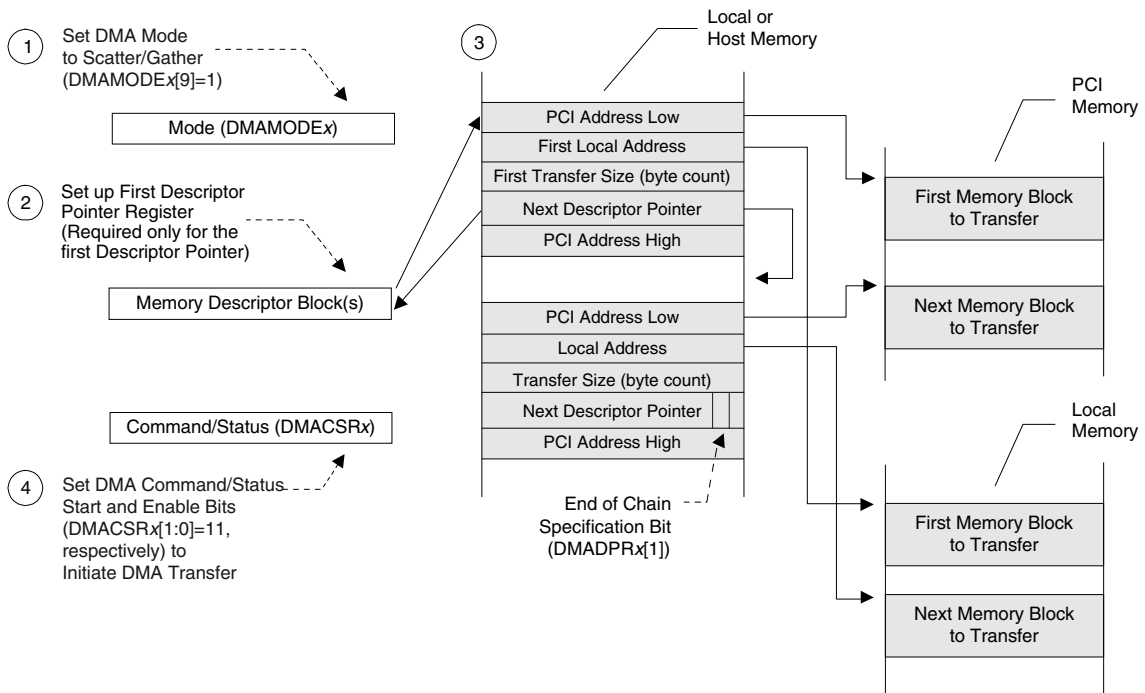

Figure 5-18. DMA Scatter/Gather Mode Descriptor Initialization [DAC PCI Address (DMAMODEx[18]) Descriptor Dependent (PCI Address High Added)]
- DMADACx contain(s) a value of 0h. DMAMODEx[18] is set to 1. The PCI 9056 performs a SAC 5-Lword descriptor block load from PCI memory and DMA transfer with PCI DAC on the PCI Bus. (Refer to Figure 5-18.) The DMA descriptor block starting addresses should be 32-byte-aligned.
- DMADACx contain(s) a non-zero value. DMAMODEx[18] is set to 1. The PCI 9056 performs a SAC 5-Lword descriptor block load from PCI memory and DMA transfer with DAC on the PCI Bus. The fifth descriptor overwrites the value of the DMADACx register(s). (Refer to Figure 5-18.) The DMA descriptor block starting addresses should be 32-byte-aligned.